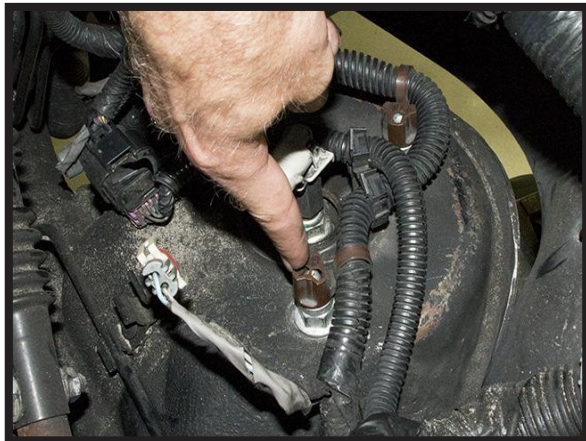

FIGURE 5
3. REMOVE THE WIRE CLIPS AND TOP MOUNTING NUTS. (FIGURES 5, 6, 7)